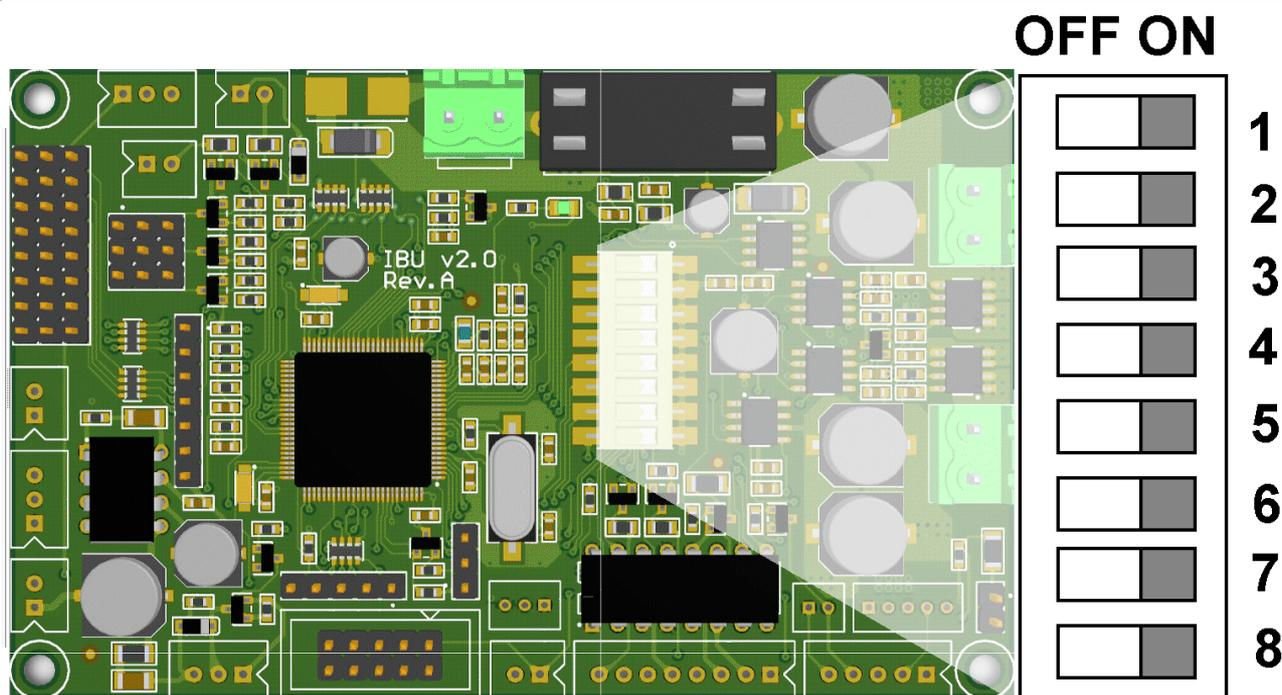

Fig. 6 DIP Switch setting
Dip switch 1 sets the tank function (battle or repair), according table shown in Fig. 6.
Dip switches 2 and 3 set the weight class of the tank (and the corresponding momentum, if activated), according the following table and Fig. 6
- Move the dip switch 8 (Fig. 6) to ON position.